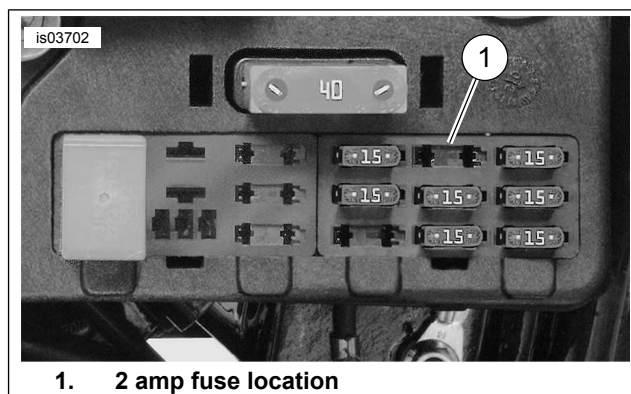

Figure 6. Socket for 2 Amp Fuse (2004 Dyna Shown)
4. See Figure 6. Install a 2-Amp fuse in the **P&A IGN (OPEN)** slot.